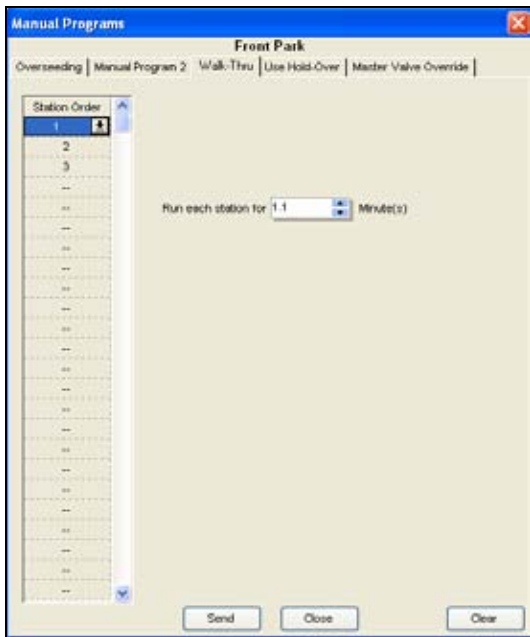

Figure 17.2.12
1. When you click on the **Walk Thru** tab the “Walk Thru” screen will appear (Figure 17.2.12).